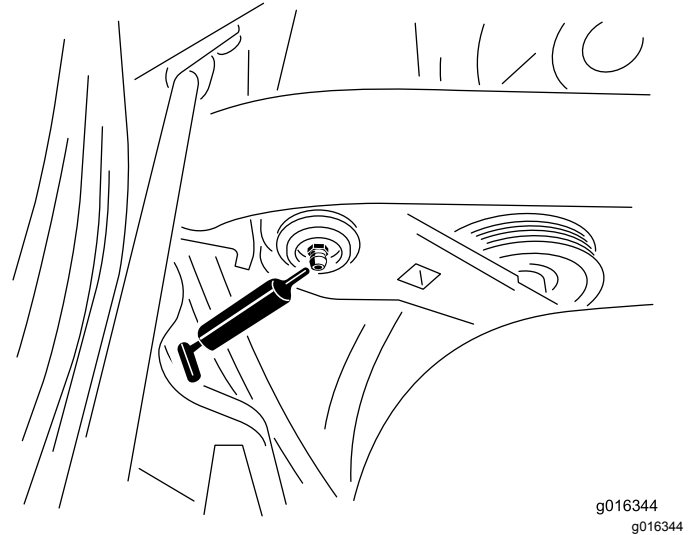

Figure 27
1. Wipe the grease fitting clean so that you do not force foreign matter into the bearing or bushing (Figure 27).